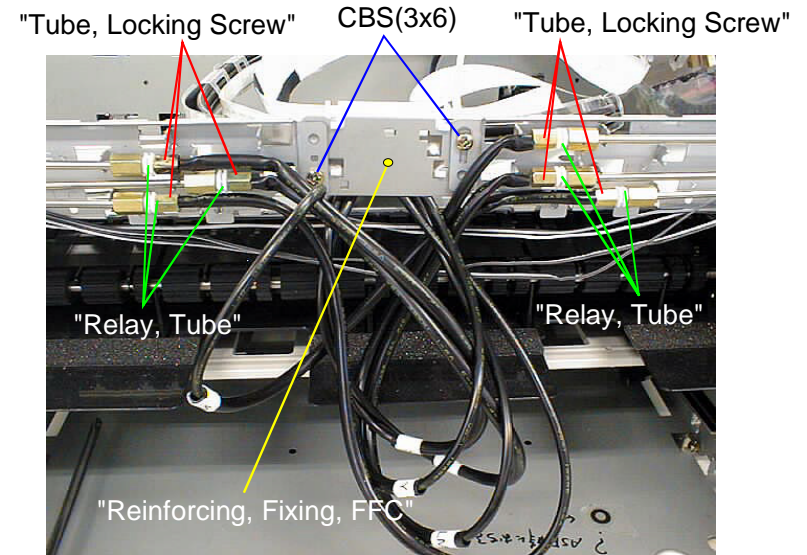

Figure 4-41. "Tube, Locking Screw" Removal
4. Remove only 6, which are located inside, out of 12 "Tube, Locking Screw"s securing 6 ink tubes respectively, and remove ink tubes. (Refer to Figure4-41)